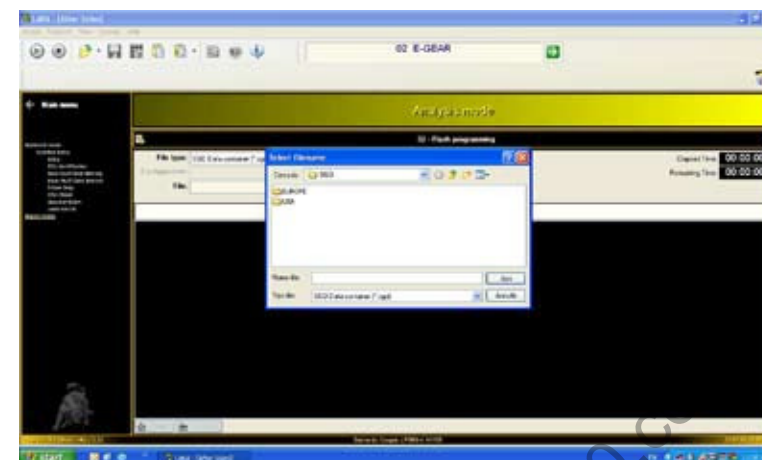

Fig.120
6. The system will make two software files available, which are already loaded in the system (Fig.120):